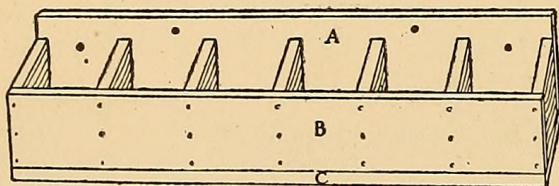

FIG. 48.
**Partitioned Nail Box** (Figs. 47-49) will hold six different lengths of nails. Cut the back and bottom (*A* and *C*, Fig. 48) 3 feet long by 8 inches wide, the front (*B*) the same length by 5 inches wide, and the partitions and end pieces (*D*, Fig.